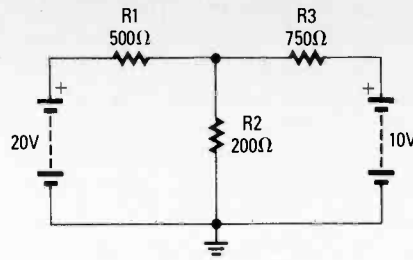

Fig. 2. Use this diagram to help you solve Problem 3. Even if your loop selection is different, the results should be the same.
3. Refer to Fig. 2. Find the loop currents.